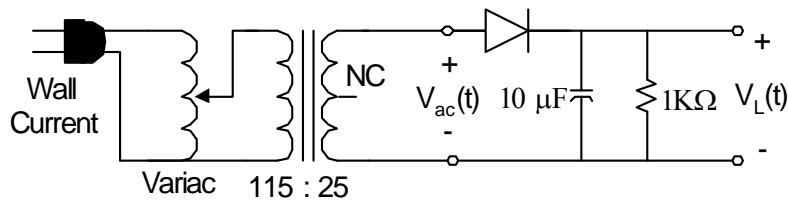

Fig. 5 – Unregulated DC Power Supply
*DC Power Supply:* In class experiment you observed the rectification property diodes. Fig. 5 shows how the half wave rectifier circuit may be modified by the addition of a single-capacitor filter. Analysis of the circuit indicates that when the diode is conducting, the capacitor will charge up to approximately the source peak voltage. When the diode shuts off, current from the now discharging capacitor will continue to supply the load so that the load voltage will be maintained somewhat until the next charging cycle.
A good power supply should have a low percent regulation, indicating that the voltage seen by the load is fairly independent of the current drawn by that load. For the circuit in Fig. 5, the full load situation corresponds to the current drawn when the load resistance is 1kΩ. The no load condition is an open circuit ( $I_{RL}=0$ ) for  $R_L=\infty$ .